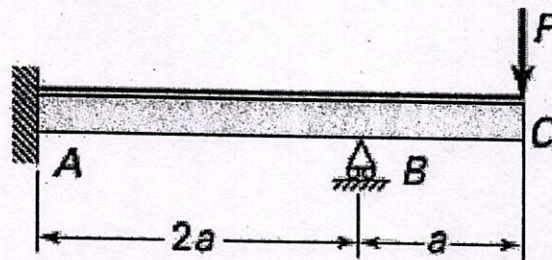

Figure 6
Q.7 A beam is supported and loaded as illustrated in Figure 6. Use Castigliano's second theorem to determine the reactions.